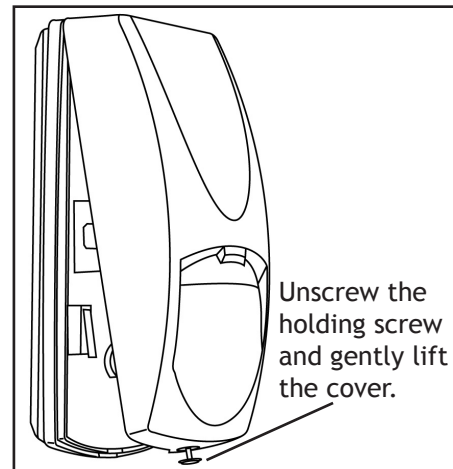
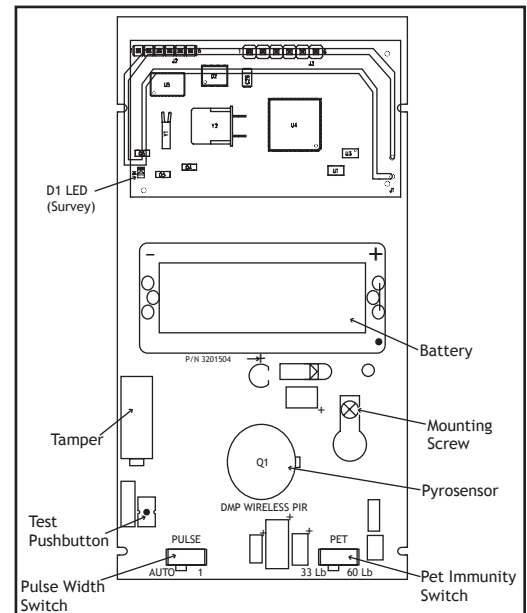
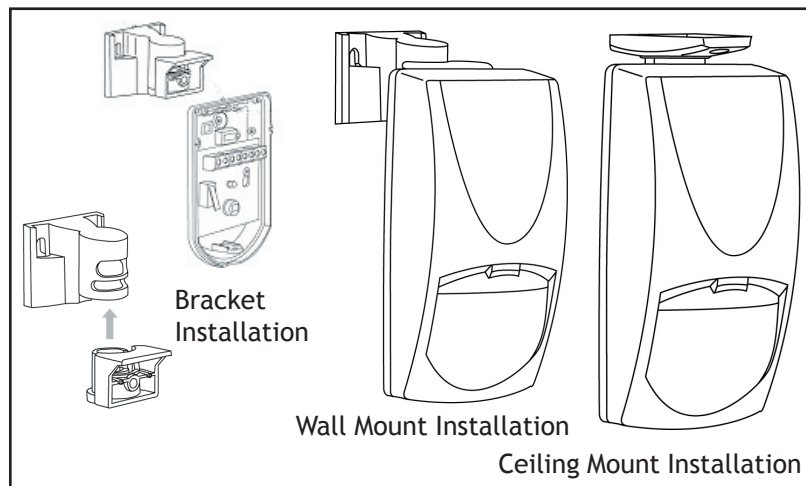

Figure 1: Remove the 1121 Cover
Figure 3: 1121 PIR Circuit Layout
Figure 5: Optional Bracket Mounting
For your convenience, an additional pre-printed serial number label is included. Verify the serial number on the label matches the serial number located on the side of the battery compartment. See Figure 3. Prior to installing the device, record the serial number or place the pre-printed serial number label on the panel programming sheet. This number is required during programming. As needed, use the zone name and number label to identify a specific transmitter.
The PIR transmitter provides a survey capability to allow one person to confirm transmitter communication with the receiver while the cover is removed. Refer to Figure 1 to remove the PIR front cover. The PIR transmitter PCB Red Survey LED turns on whenever data is sent to the receiver then immediately turns off when the receiver acknowledgement is received. Pressing the PIR tamper switch is a convenient way to send data to the receiver to confirm operation. The PIR circuit board LED lights to indicate motion and the Survey LED briefly lights to confirm operation. See Figure 3 for LED locations. See Installing or Replacing Batteries.
Use the switches located on the unit PCB to set sensitivity and pet immunity, as shown in Figure 3. Use the following to determine the appropriate switch settings for an application.
The test pushbutton is located below the tamper switch. Use this button to activate the detector Walk Test and RF transmission test modes. Perform the steps following each test option to verify operation. Refer to Figure 3 to identify the test pushbutton location. Before performing any of the tests, ensure the 1121 PIR is currently programmed in the Command Processor™ panel.
1. Use a Phillips head screwdriver to unscrew the holding screw at the lower end of the 1121 case, gently raise the front cover, and slide the cover out of the closing pins. Refer to Figure 1.
2. Use a Phillips head screwdriver to loosen the mounting screw located on the PIR printed circuit board (PCB) and slide the PCB out of the unit. See Figure 3 for the mounting screw location.
The 1121 PIR can optionally be attached to a mounting bracket. The bracket can be mounted to the ceiling or a wall location. Refer to Mounting the Unit, Figure 1 and Figure 5 as needed.
2. Remove the front cover. See Figure 1.
4. Observe polarity and insert the lithium battery into the battery holder where indicated in Figure 3.